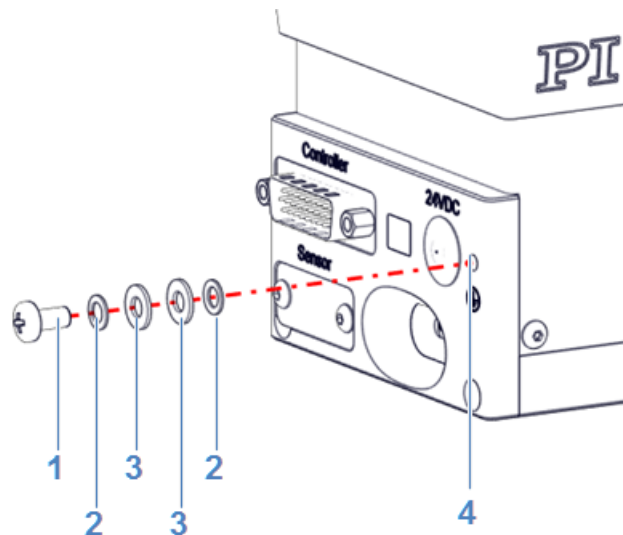

Figure 6: Protective earth connection setup (exploded view)
2. Remove the screw and the safety and flat washers of the protective earth connection (p. Figure 6).